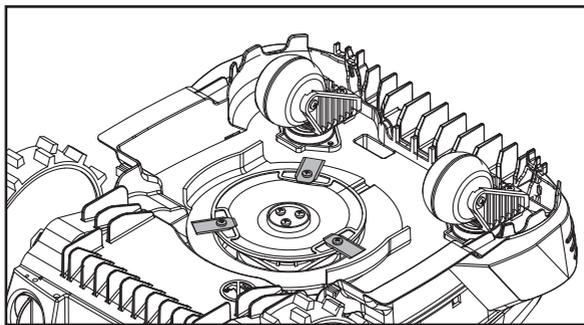

Fig. 29
- Loosen the blade bolts on the cutting blades (9) with a cross-head screwdriver by turning them anti-clockwise (Fig. 29).
- Fit the new cutting blades (9) and tighten the blade bolts clockwise with a torque of 1.3-1.5 Nm.